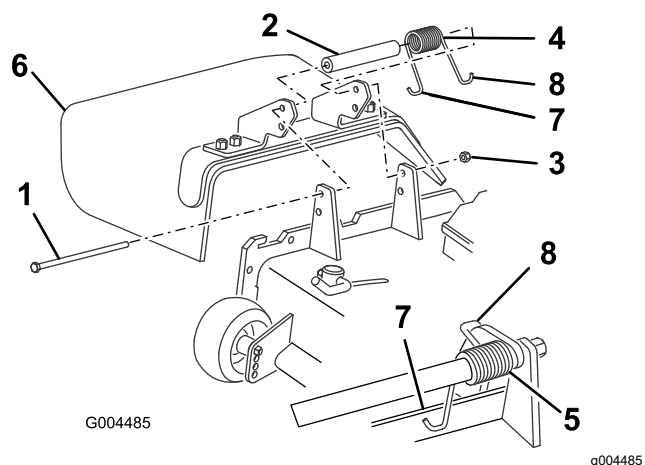

Figure 27
2. Remove the locknut, bolt, spring and spacer holding the deflector to the pivot brackets (Figure 27). Remove damaged or worn grass deflector.
3. Place the spacer and spring between the replacement grass deflector brackets (Figure 27). Place the left hand J hook end of the spring behind the cutting unit edge.
Note: Ensure that the left-hand hook end of the spring is installed behind the cutting unit edge before installing the bolt as shown in Figure 27.
4. Install the bolt and nut. Place the right-hand hook end of the spring around the grass deflector (Figure 27).